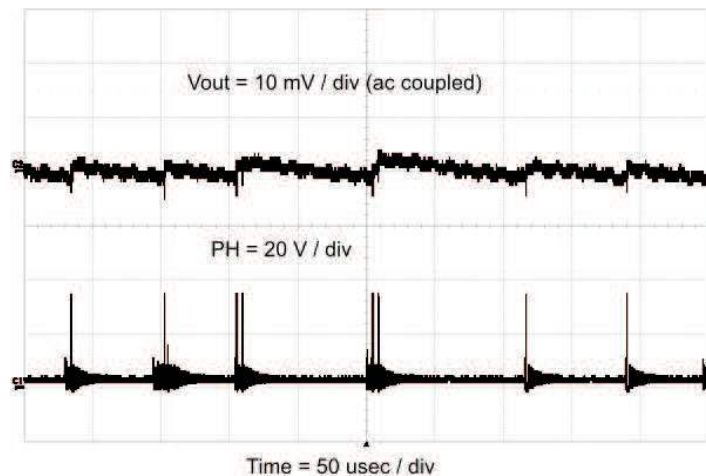

Figure 10. TPS54060EVM-415 Eco-mode™ Operation
Figure 10 shows Eco-mode operation, channel 1(C1) shows the output voltage whereas channel 2(C2) shows the switching node (PH).